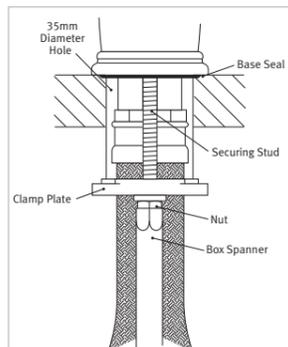

Figure 1. Installation of Tap
- Refer to Figure 1.
See Figure 1.